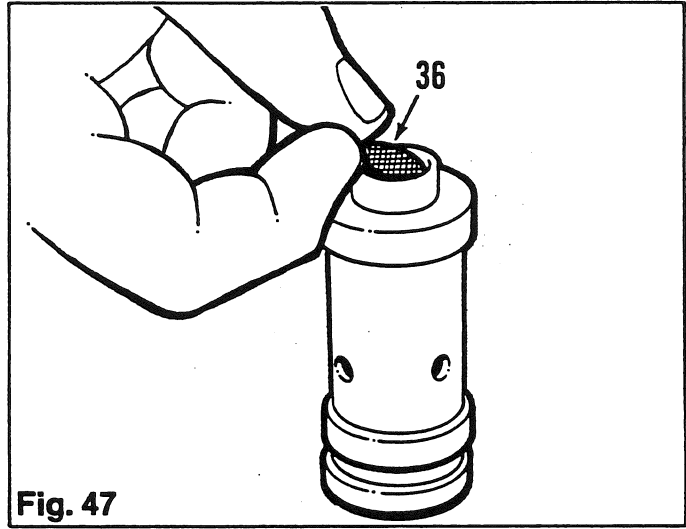

Fig. 47
5. Install the check valve assembly (38), spring (37), retainer (36) and snap ring (35). (Fig. 47)